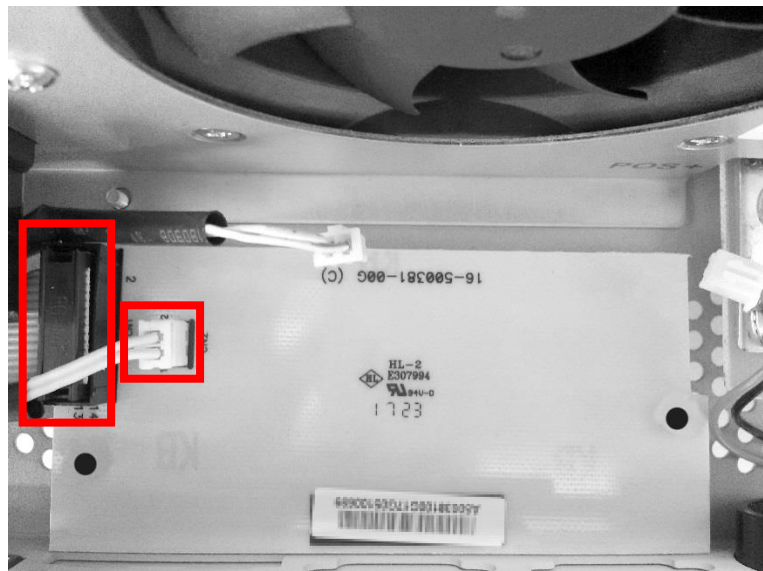

Figure 5: Remove connectors on beige dummy board
5. Undo the two cable connectors (14-Pin and 2-Pin) from the beige dummy board as shown in Fig. 5. Make sure to mark them beforehand for a correct re-assembly later.